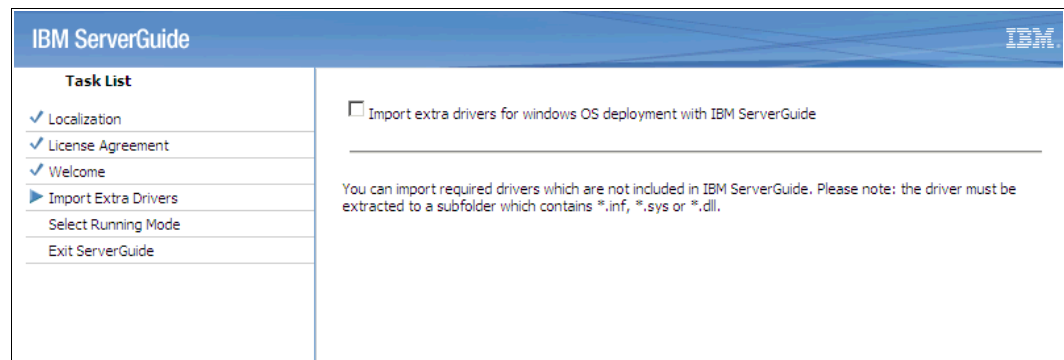

Figure 6-30 Import additional drivers
8. The next window allows you to import additional drivers that are not included in the ServerGuide, as seen in Figure 6-30.